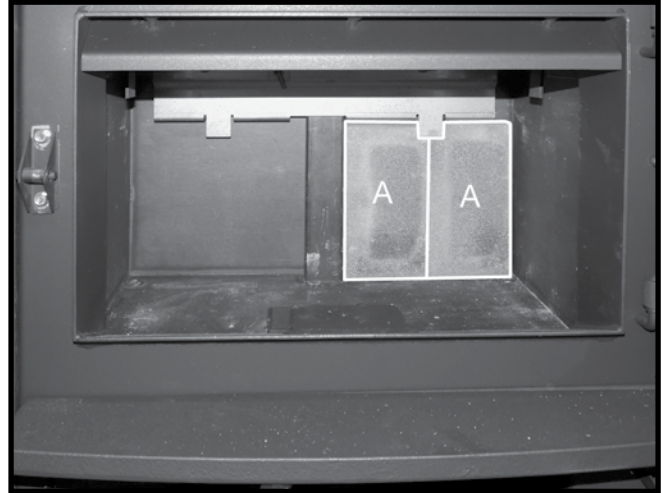

Figure 21: Installing the 2nd rear wall firebricks.
2. Slide a 2nd "A" firebrick underneath the tab on the brick rail (Figure 21).